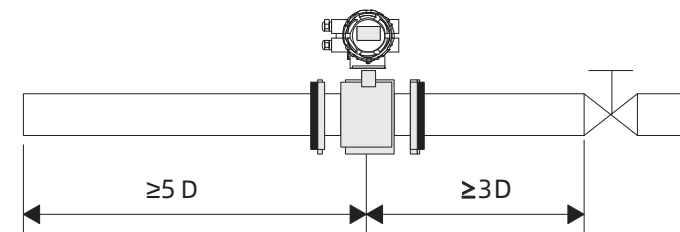
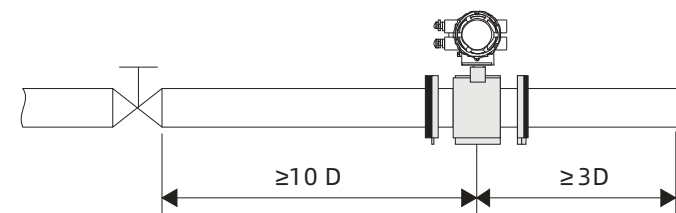

Fig. 10 Installation with the valve located downstream of the sensor
Fig. 11 Installation with the valve upstream of the sensor
- To ensure the accuracy of the flow meter, it is recommended that the length of the straight pipe section upstream of the sensor should be at least 5 times the pipe diameter (5D) and the length of the straight pipe section downstream should be at least 3 times the pipe diameter (3D). -Figure 10, Figure 11